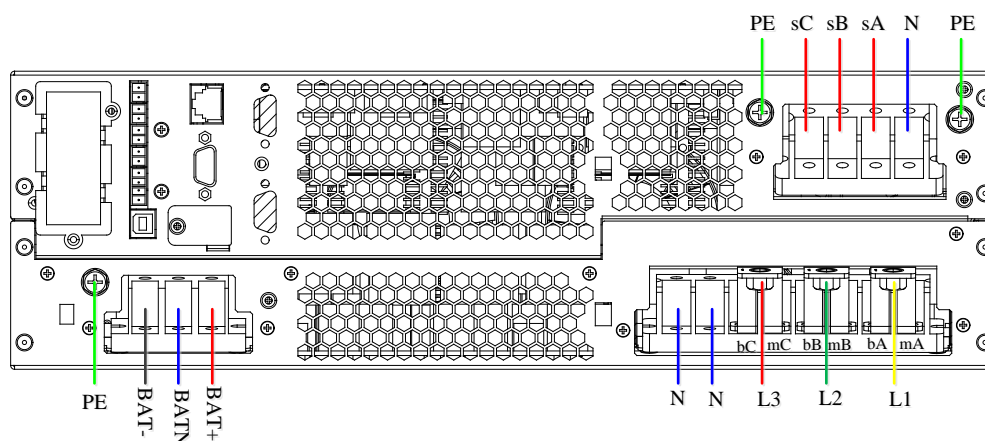

Figure 2-13 Wiring diagram (3-in 3-out, common input configuration)
3. Connect the standard output live wires (phase-A, phase-B and phase-C) respectively to the output terminals sA, sB and sC. Connect the output N line and output PE line respectively to the output terminals N and PE. As shown in Figure 2-13.